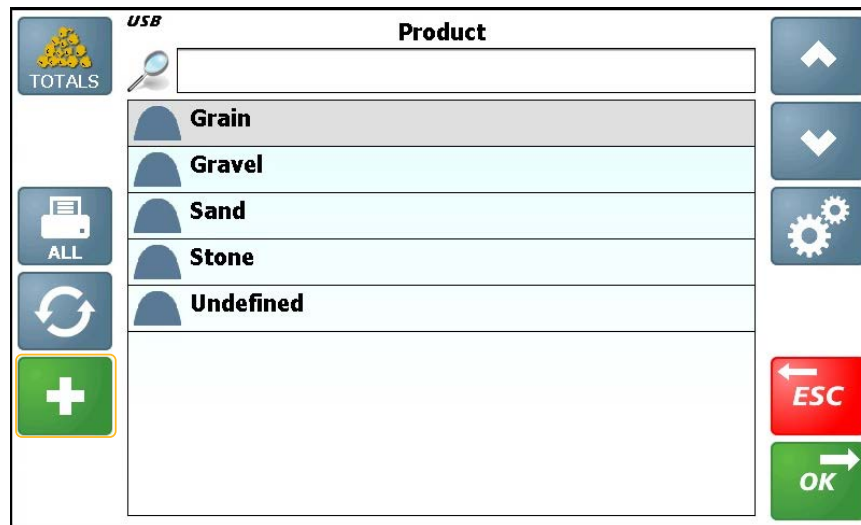

Figure 7-6: Load Weighing Display Product Screen
2. Select the appropriate reference to open the **Product** screen (Figure 7-6).